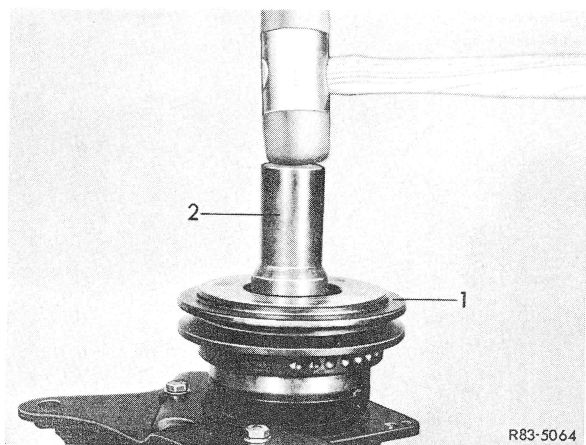

Figure 9
6 Tap pulley (1) onto compressor guide pin using punch (2). Apply punch in such a manner that the force is applied to the inner bearing race to avoid damage to bearing (Fig. 9).